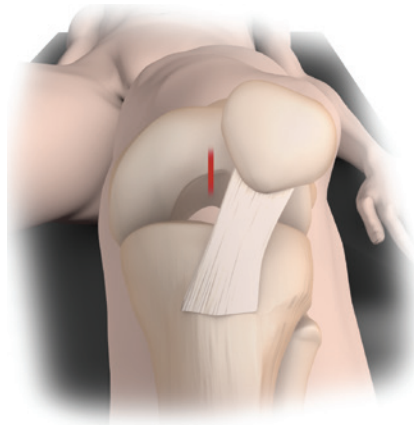

Figure 4
3. Make a 3–4cm midline skin incision, followed by a medial parapatellar capsular incision to expose the intercondylar notch (Figure 4). Gently retract the patellar tendon laterally.